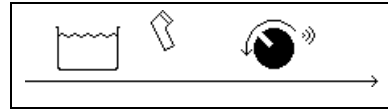

Figure 8
- 11) When you see the screen as in figure 8, turn back the intensity knob to its zero position.